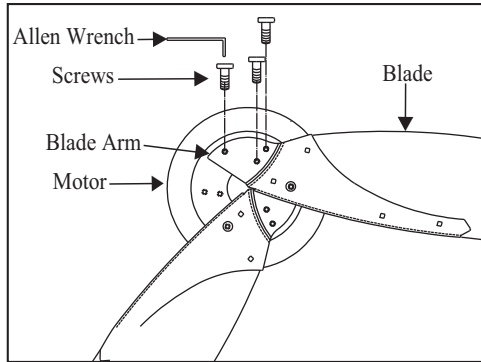

Figure 14
1. For first and second blade assemblies: Remove the screws from the motor, attach the first and second blade assemblies to the motor using 3 screws provided, secured with Allen wrench. (Figure 14)